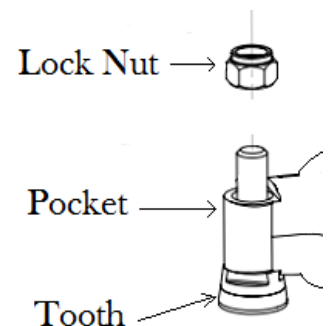

Figure 1.2
9. Install your teeth with the carbide facing down. The shoulder of the tooth will meet the flat indent of the pocket and the tooth will not rotate. Thread one of the lock nuts onto the top portion of the tooth. Hand tightening is good for now. Repeat until all teeth are installed. (Figure 1.2)